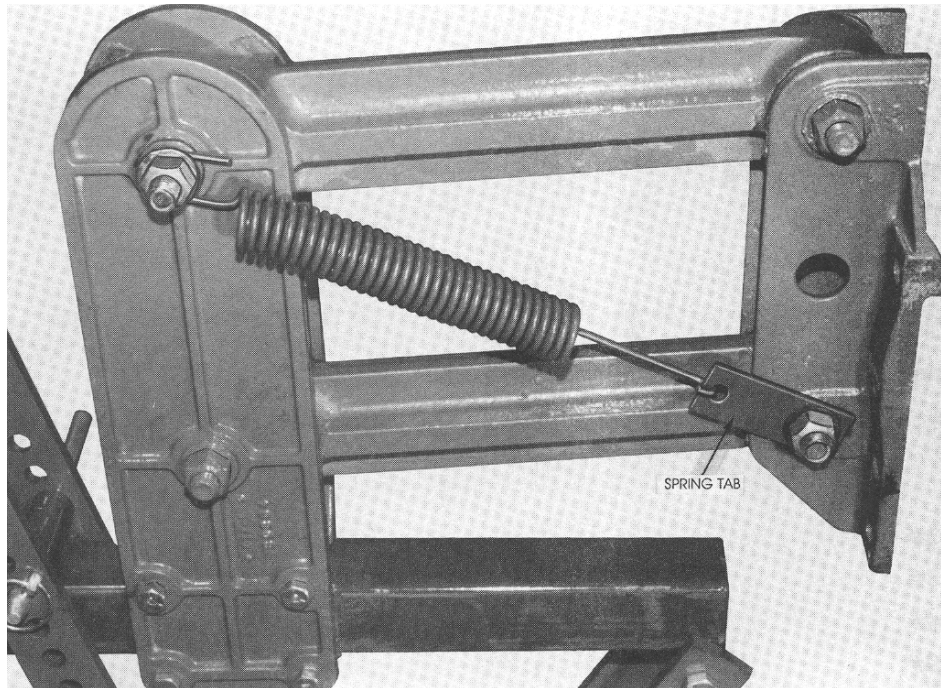

FIGURE 22
1. See Figure 22. Lower cultivator to ground. Remove lower front gang bolt and replace with new 5-1/2" cap screw. Install spring tab and replace nut. Save the washer for the upper end.